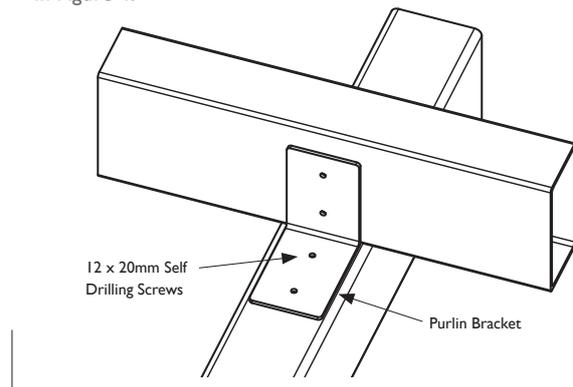

Figure 4
- Purlins are connected to trusses via the purlin brackets previously installed, Two 12 x 20mm self drilling screws are fastened into the purlin and the purlin bracket is connected to the truss as shown in Figure 4.